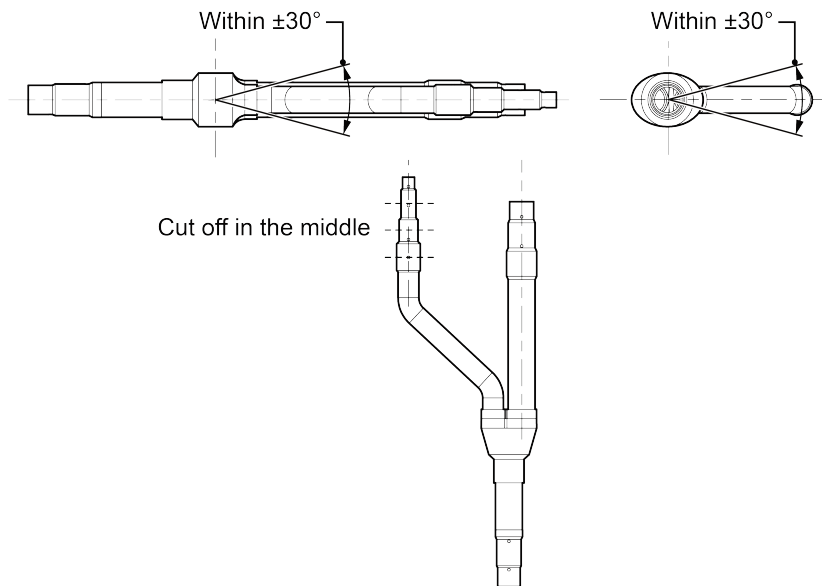

Fig. 26
(2) Y-type branch has several pipe sections with different dimension, which facilitates to match with various copper pipes. Use pipe cutter to cut in the middle of the pipe section that is of proper dimension and remove burrs as well. See Fig.26.
- (3) Y-type branch must be installed vertically or horizontally.